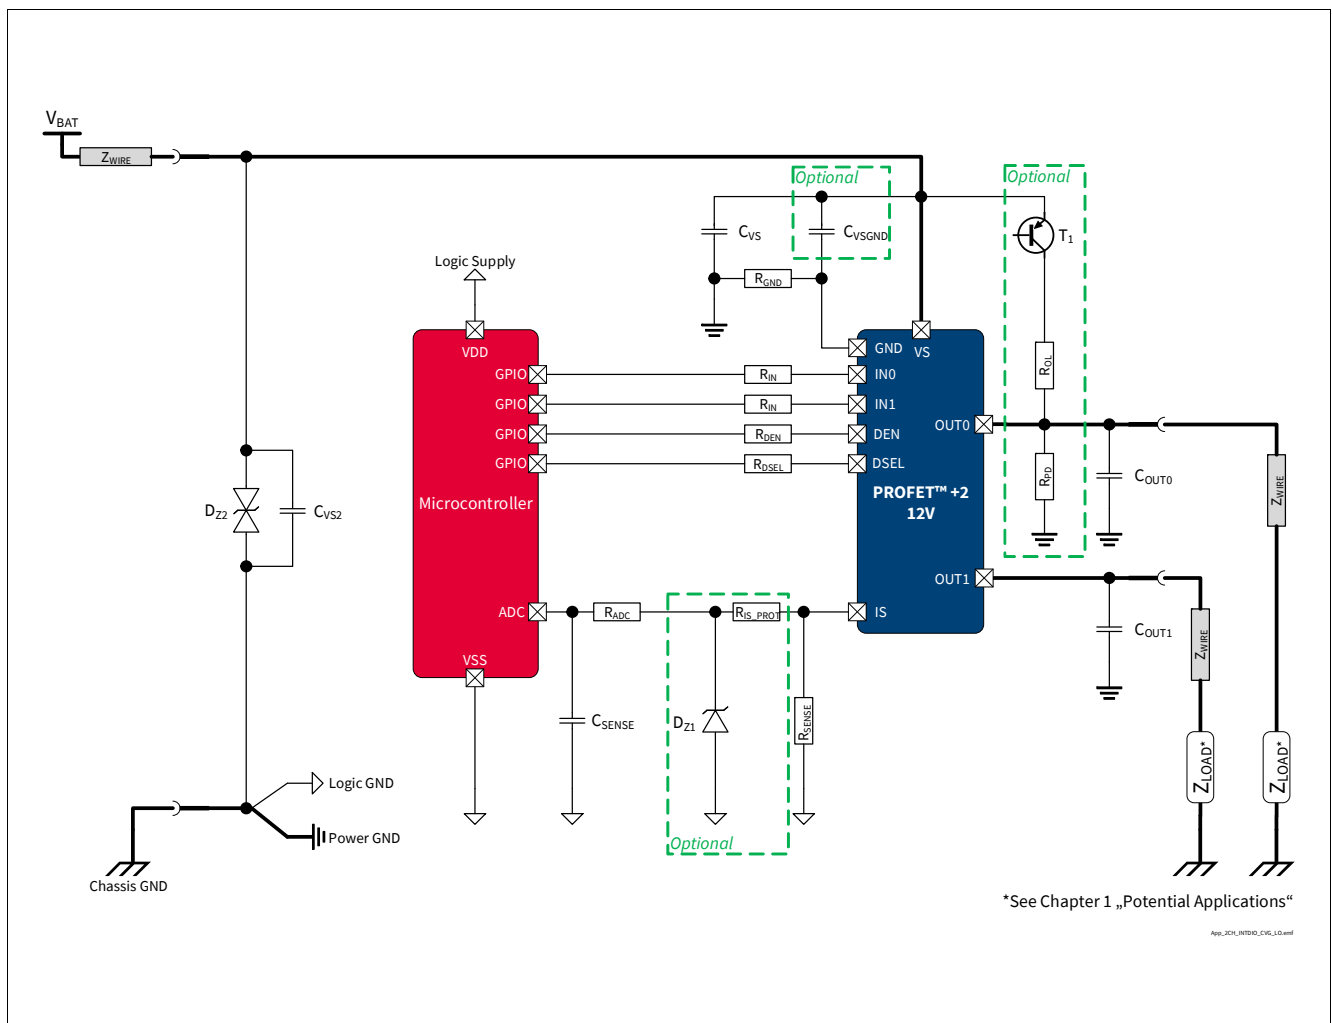

Figure 43 BTS7008-2EPA Application Diagram
1.14 , 2019-10-15	<p>Chapter 8.2 updated</p> <p>P_8.7.1.1, P_8.7.1.7, P_8.7.1.8 updated (added in Note or Test Condition: link to Figure 25)</p> <p>P_7.5.1.4, P_7.5.1.5 updated (added in Note or Test Condition: DEN = “low”)</p> <p>P_7.5.1.12 updated (deleted unnecessary space in Symbol: dV_{OUT} / dt → dV_{OUT} / dt)</p> <p>P_9.7.1.6 updated (Min./Typ./Max.: -50%/5500/+50% → -35.0%/5400/+35.0%)</p> <p>P_9.7.1.9 updated (Min./Typ./Max.: -42%/5500/+42% → -30.0%/ 5400/+30.0%)</p> <p>P_9.7.1.12 updated (Min./Typ./Max.: -40%/5500/+40% → -29.5%/5400/+29.5%)</p> <p>P_9.7.1.15 updated (Min./Typ./Max.: -25%/5500/+25% → -13.5%/5400/+13.5%)</p> <p>P_9.7.1.18 updated (Min./Typ./Max.: -8%/5500/+8% → -5.8%/5400/+5.8%)</p> <p>P_9.7.1.20 updated (Min./Typ./Max.: -6%/5500/+6% → -4.0%/ 5450/+4.0%)</p> <p>P_9.7.1.22 updated (Min./Typ./Max.: -5%/5500/+5% → -3.9%/5450/+3.9%)</p> <p>Figure 1, Figure 43 updated</p> <p>Chapter 1 updated (or LED equivalent → or equivalent electronic loads (e.g. LED modules))</p> <p>P_4.3.0.7 added</p> <p>Table 24 updated</p> <p>Chapter 5.1 updated (added: see Chapter 10 for the complete application setup overview)</p>